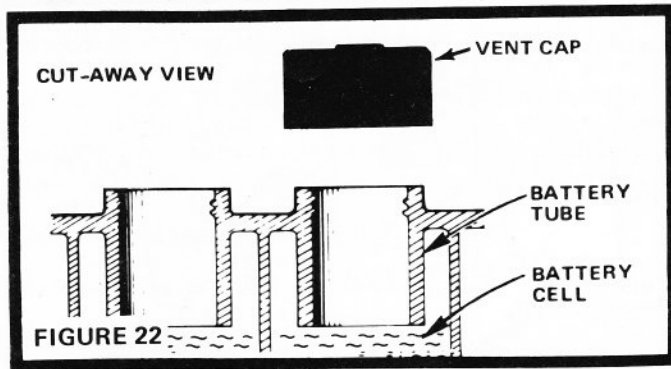

FIGURE 22
- Electrolyte solution level in each Battery Cell should be even with bottoms of tubes in cells (Fig. 22). Add distilled water if necessary. NOTE: DO NOT OVERFILL.